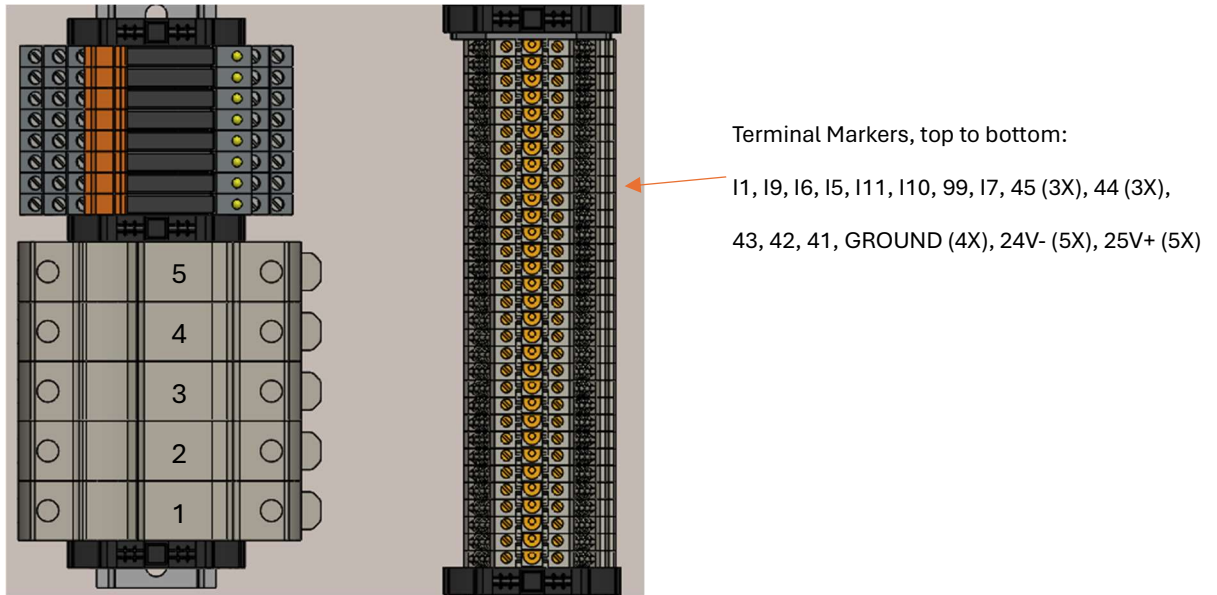

Figure 2. Terminal blocks (labeled) in customer connections enclosure (1/2" NPT wiring entrance hubs)
- d. To remotely initiate a PST, send a momentary 24VDC signal to input 10 (Section 5, Figure 2).
Table 1. Terminal identifiers and function (references Figure 2)
Table 2. Fuse holder layout (references Figure 2)